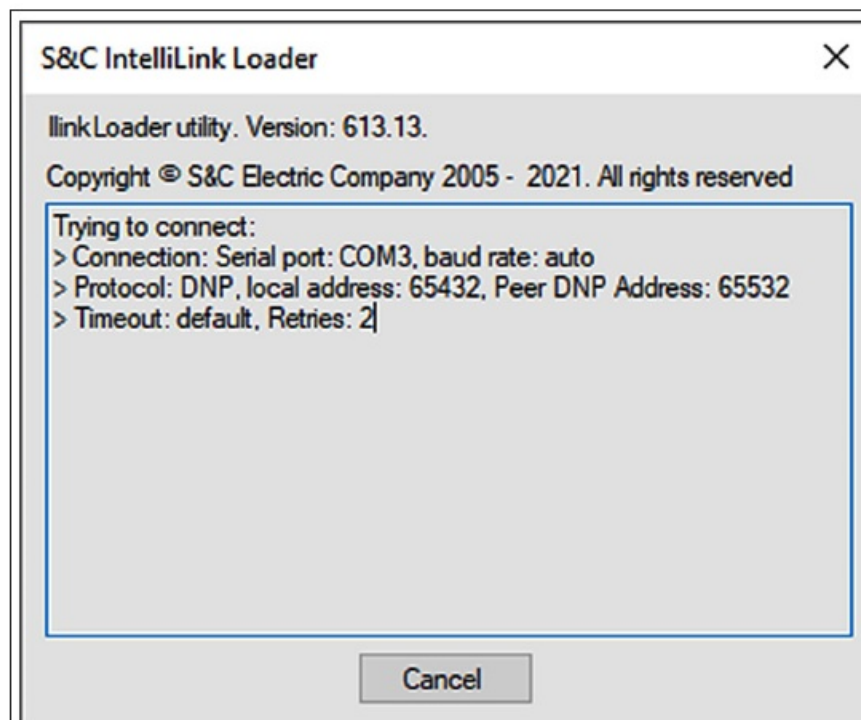
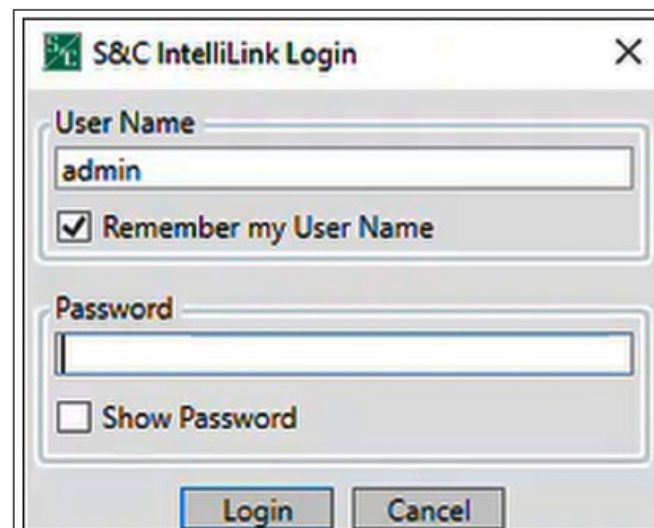

Figure 9. The S&C Ilink Loader dialog box.
Figure 8. The User Name and Password entries in the S&C IntelliLink Login dialog box.
- **STEP 6.** The Ilink Loader dialog box will open followed by the S&C IntelliLink Login dialog box. See Figure 8 and Figure 9 on page 14. Enter the User Name and Password, and click on the OK button. Contact S&C if assistance is needed with these entries.